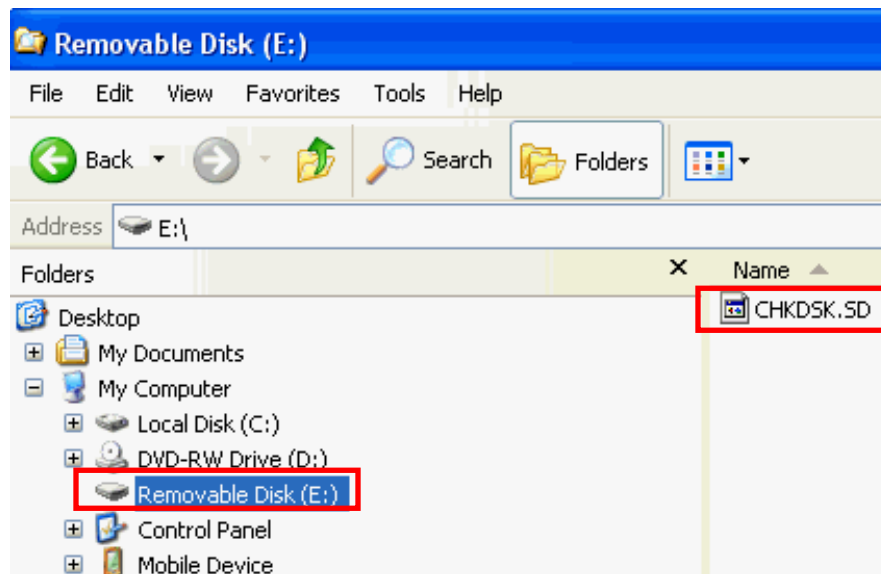

Figure 150: Automatically Generated CHKDSK.SD File
1. Prior to logging data to the internal device (SF-3050), type the command [FSFORMAT]A:;DEFAULT to check for corruption and to format the internal flash; a “CHKDSK.SD” file will be created automatically upon completion of formatting (see Figure 150).
2. Type [USBMODE]Device,MassStorage in the *Input Terminal* window. The SF-3050 2GB internal memory chip or the SF-3040 removable SD card will show in Windows Explorer as an additional (removable) drive (see Figure 150), similar to a camera when connected to the USB port.
2. Type [USBMODE]Device, MassStorage on the *Input Terminal*. The SF-3050 2GB internal memory flash will show in Windows Explorer as an additional “removable” drive (see Figure 150).
3. Open the datalog folder (see Figure 150) on the removable drive and select the folders or files to store on the PC.